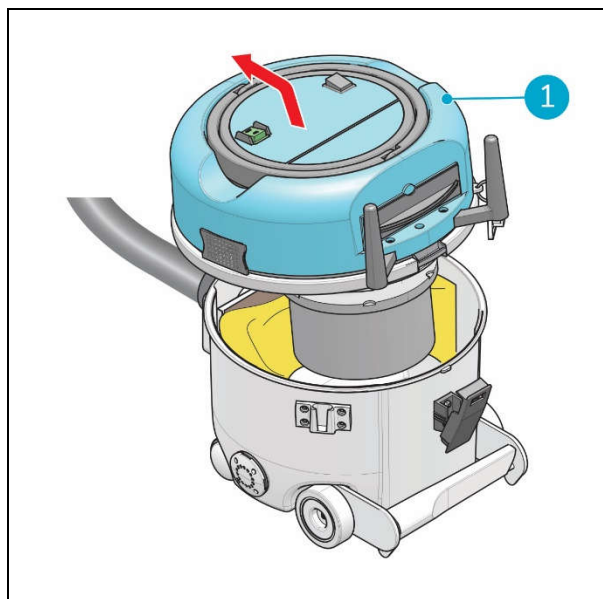

Figure 10
4. Pull the head (fig 10, pos 1) towards the side of the hose entrance and lift it up.